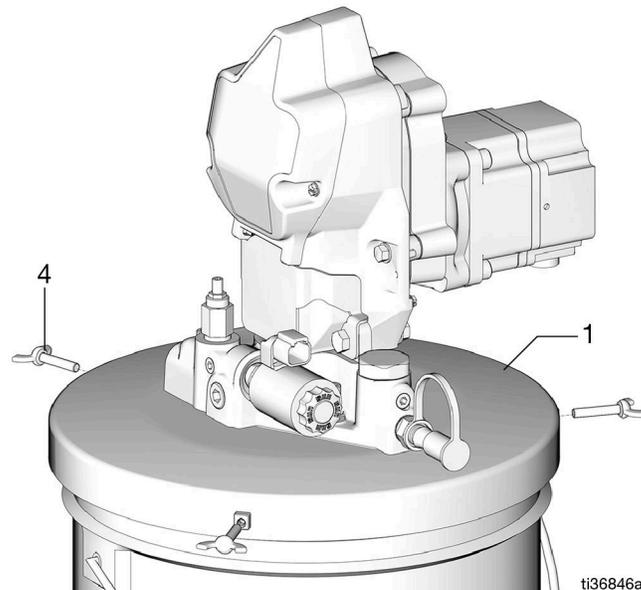

FIG. 10
10. Install the thumb screws (4) into the cover (1) and tighten securely (FIG. 10).